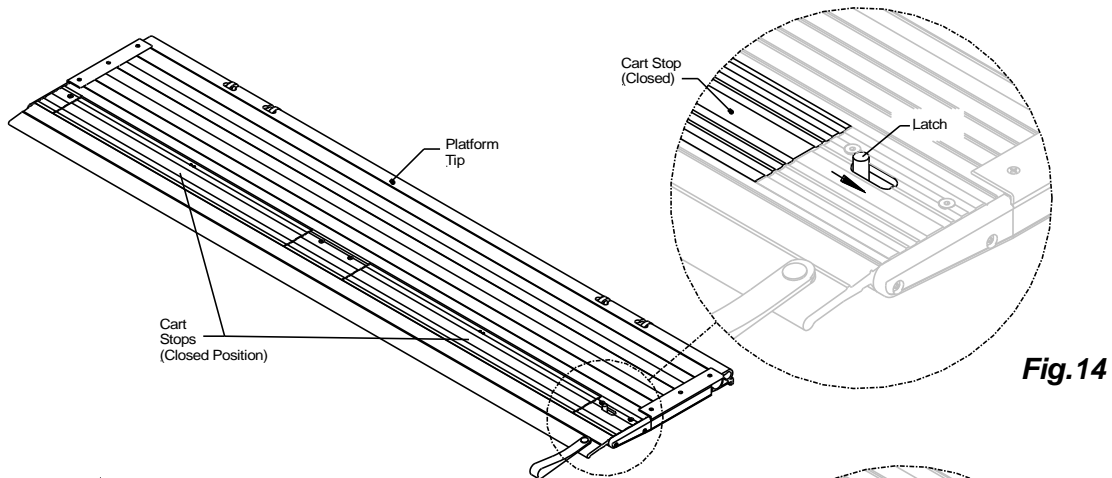
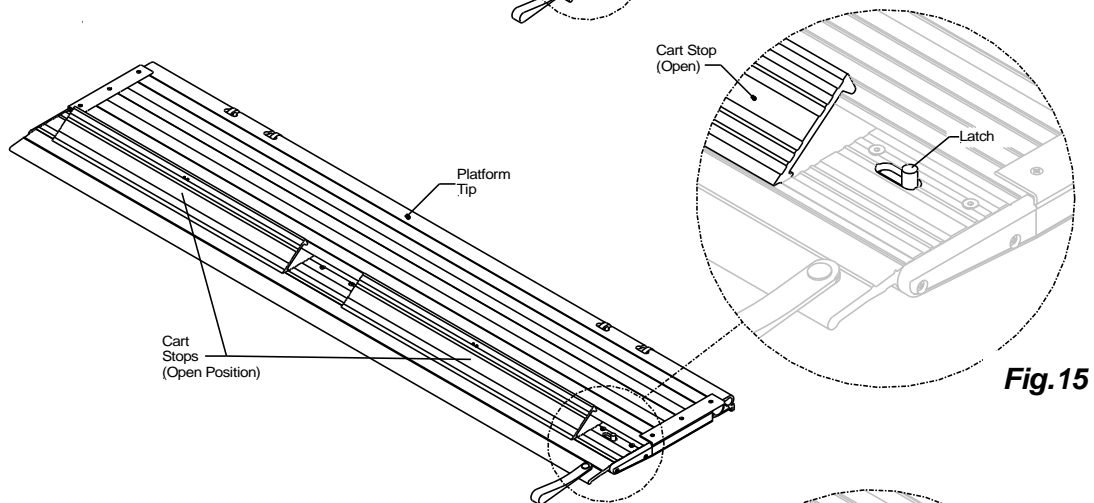

Fig.14
Fig.15
1. Push the cart stop latch out toward the curb side, **Fig.14**. The cart stop will spring open automatically once the latch has been moved from its original position, **Fig.15**.